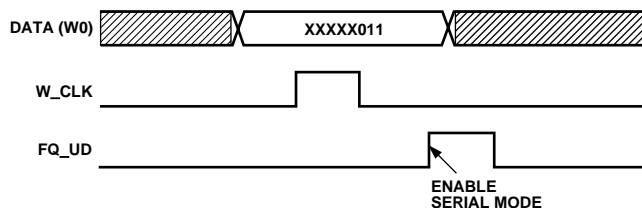
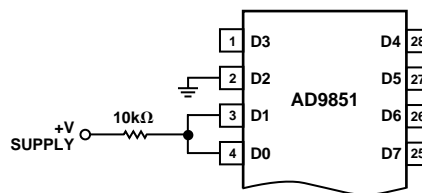
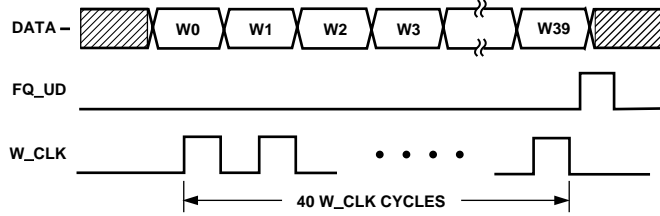

Figure 17. Serial-Load Enable Sequence
Figure 18: Hardwired xxxxx011 Configuration for Serial-Load Enable Word W0 in Figure 17
Figure 19. Serial-Load Frequency/Phase Update Sequence
In serial load mode, forty subsequent rising edges of W_CLK will shift and load the 1-bit data on Pin 25 (D7) through the 40-bit register in “shift-register” fashion. Any further W_CLK rising edges after the register is full will shift data out causing data that is left in the register to be out-of-sequence and corrupted. The serial mode must be entered from the default parallel mode, see Figure 17. Data is loaded beginning with W0 and ending with W39. One note of caution: the 8-bit *parallel* word (W0)—xxxxx011—that invokes the serial mode should be overwritten with a valid 40-bit serial word immediately after entering the serial mode to prevent unintended engaging of the $6\times$ REFCLK Multiplier or entry into the factory test mode. Exit from serial mode to parallel mode is only possible using the RESET command.
*This bit is always Logic 0 unless invoking the serial mode (see Figure 17). After serial mode is entered, this data bit must be set back to Logic 0 for proper operation.
Entry to the serial mode, Figure 17, is via the parallel mode which is selected by default after a RESET is asserted. One needs only to program the first eight bits (word W0) with the sequence xxxxx011 as shown in Figure 17 to change from parallel to serial mode. The W0 programming word may be sent over the 8-bit data bus or hardwired as shown in Figure 18. After serial mode is achieved, the user must follow the programming sequence of Figure 19.
Note: After serial mode is invoked, it is best to immediately write a valid 40-bit serial word (see Figure 19), even if it is all zeros, followed by a FQ_UD rising edge to flush the "residual" data left in the DDS core. A valid 40-bit serial word is any word where W33 is Logic 0.